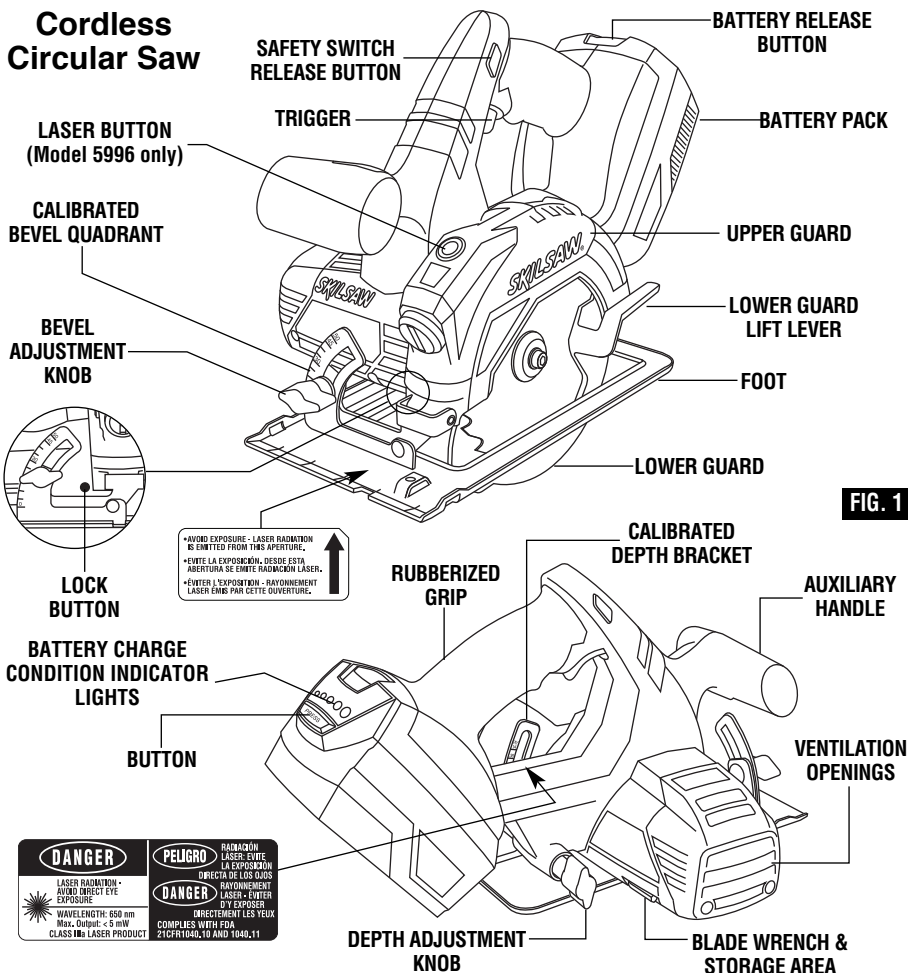

FIG. 1
1. Turn BLADE STUD with wrench provided clockwise and remove BLADE STUD and OUTER WASHER (Fig. 2). If the shaft moves while attempting to loosen the blade stud press the lock button (Fig. 1).